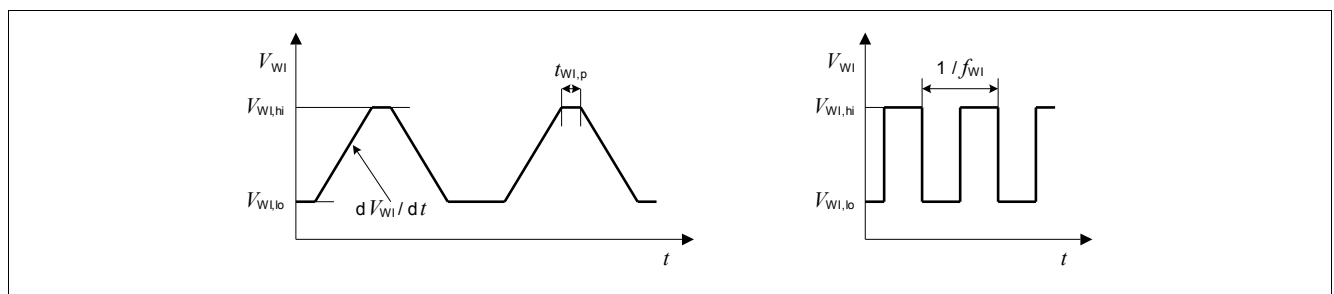

Figure 11 Test Pulses Watchdog Input WI
The watchdog is triggered by a positive edge at the watchdog input “WI”. The signal is filtered by a band-pass filter and therefore its amplitude and slope have to comply with the specification Item 8.2.10 to Item 8.2.14. For details on the test pulse applied, see Figure 11.
- 2) For details on the test pulse applied, see Figure 11.